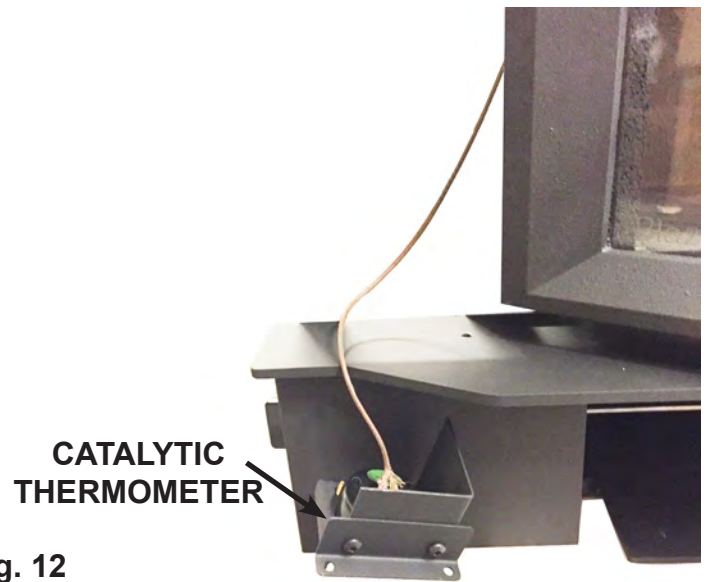

Fig. 12
1. Position catalytic thermometer across ash shelf front.(Fig. 12)